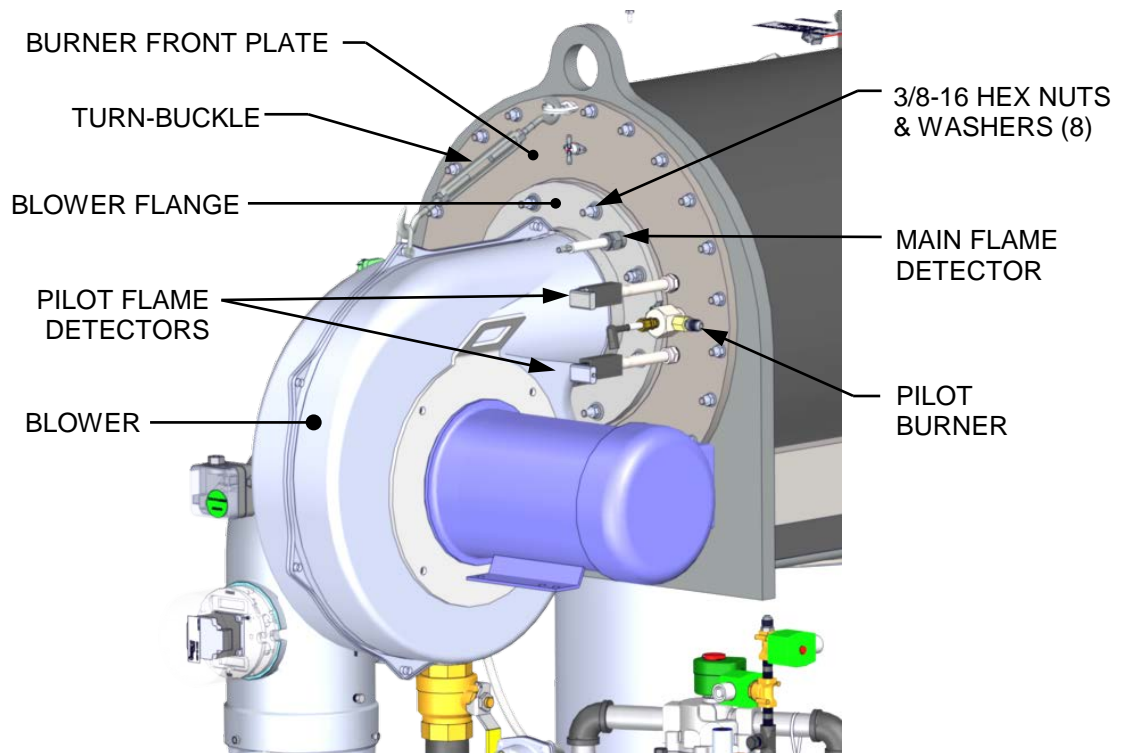
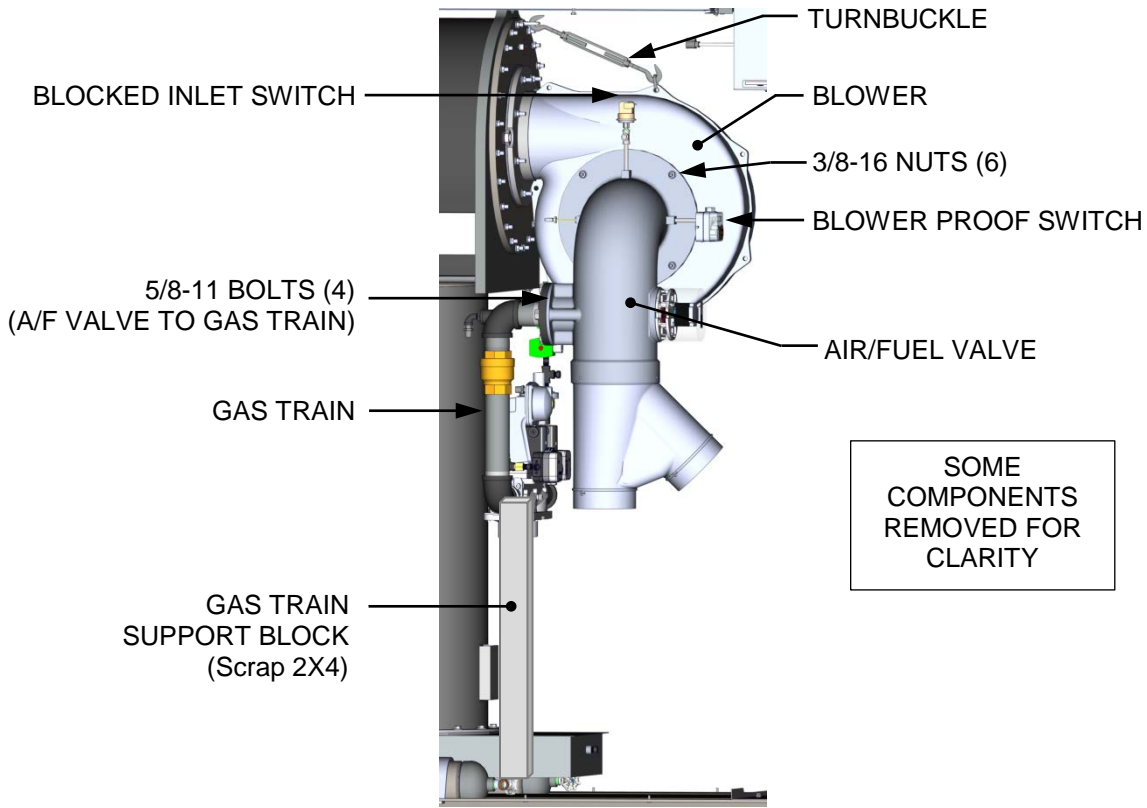

Figure 4-5a: Burner Assembly Mounting Details – Right-Front View
Figure 4-5b: Burner Assembly Mounting Details – Left Side View
<ol style="list-style-type: none"> 1. Set the C-More Controller's ON/OFF switch to the OFF position. Disconnect AC power from the unit and turn off the gas supply. 2. Remove the front panel, top panel and front side panels from the unit by grasping and lifting straight up and outward. This will expose the blower assembly for removal. 3. Remove the harnesses attached to the C-More Controller, remove 4 nuts (2 above and 2 below) from the C-More bracket and then remove the C-More and set it aside. 4. Disconnect the lead wire from the Main Flame Detector installed on the Blower Flange (Figure 4-1a, above). 5. Remove the Main Flame Detector from the Blower Flange. 6. Remove the Pilot sensors and observation ports from the Burner Plate (Figure 4-5a, below). 7. Disconnect the cable from the Pilot Burner by pulling straight out. 8. Using a 1/2" open-end wrench, disconnect the Pilot gas line from the reducer fitting and elbow shown in Figure 4-1a. 9. First, remove the reducer fitting and then the elbow from the Pilot Burner. 10. Next, loosen and remove the Pilot Burner from the Burner Plate using a 1-1/2" open-end wrench. 11. Remove the blower support turn-buckle (Figure 4-5a or Figure 4-5b). 12. Attach a hoist rig capable of lifting at least 300 pounds to the lifting lug on the blower fan housing. The Blower assembly weighs approximately 150-200 lbs. lbs. depending on which blower motor is installed. 13. Remove the two inlet air filters from the galvanized WYE-duct. 14. Disconnect the wires from the Blower Proof and Blocked Inlet switches (Figure 4-5b). 15. Disconnect the Molex connector from the temp sensor. 16. Place a support block of any appropriate material (such as a scrap 2X4 cut to length) under the gas train (see Figure 4-5b), and then remove the four 5/8-11 bolts & washers connecting the gas train to the Air/Fuel valve. 17. Remove the 6 3/8-16 nuts attaching the Air/Fuel valve to the Blower and then pull the Air/Fuel valve off and set it aside. 18. Loosen and remove the eight (8) 3/8" hex nuts and washers from the Blower Flange where it is attached to the Burner's Front Plate (see Figure 4-5a).